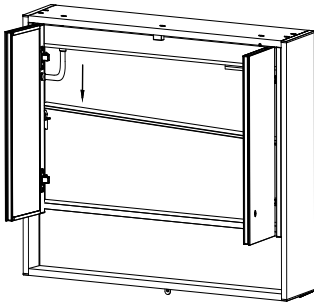

Fig.8
- 2.5 put the glass shelf on the one of the clip, and push gently the glass shelf on the other clip (as arrow) (Fig. 8).